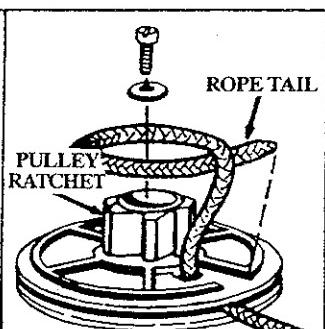

Figure 28
16. Wrap rope counterclockwise ← around pulley ratchet and tuck loose end back under rope where it comes out of hole. Leave a 1/4 to 1/2 inch tail laying flat on the top of the pulley. The rope tail must not extend beyond the edge of the pulley. Figure 28.